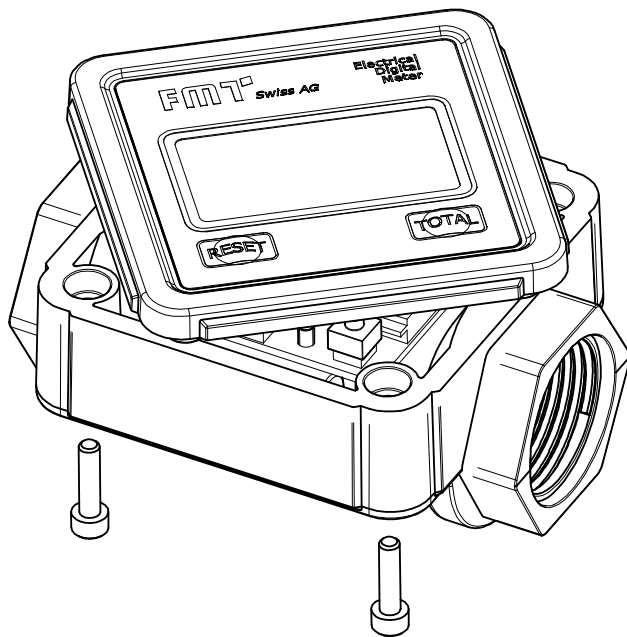

Fig. 3-1: Adjustment of flow direction display unit
- The display can be adapted to the direction of flow in 90° steps. To do so, loosen the four screws (fig. 3-1). Now you can mount the display unit turned 90°.